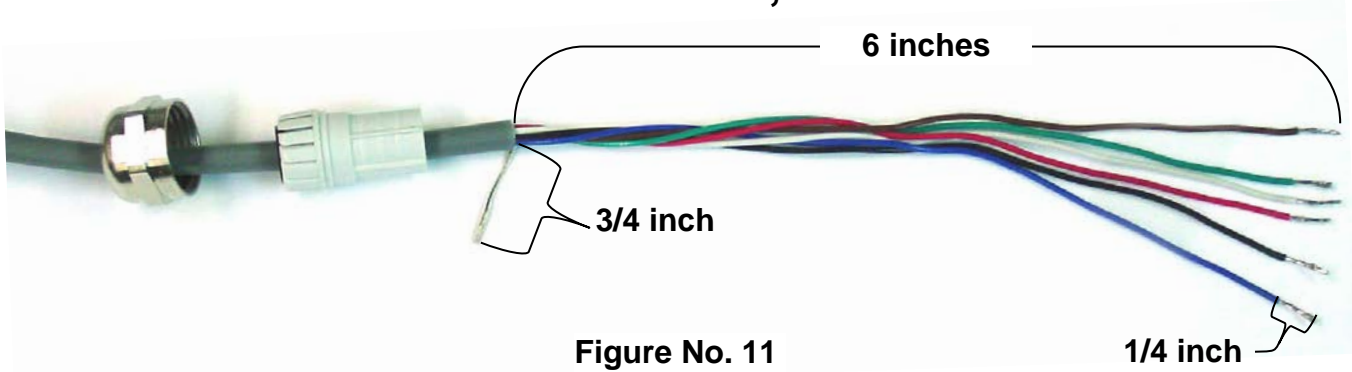

Figure No. 11
4. With the load cell cable routed into the base enclosure, refer to Figure No. 11 and then remove approximately 6 inches of the cable outer insulating jacket, exposing the internal wires.